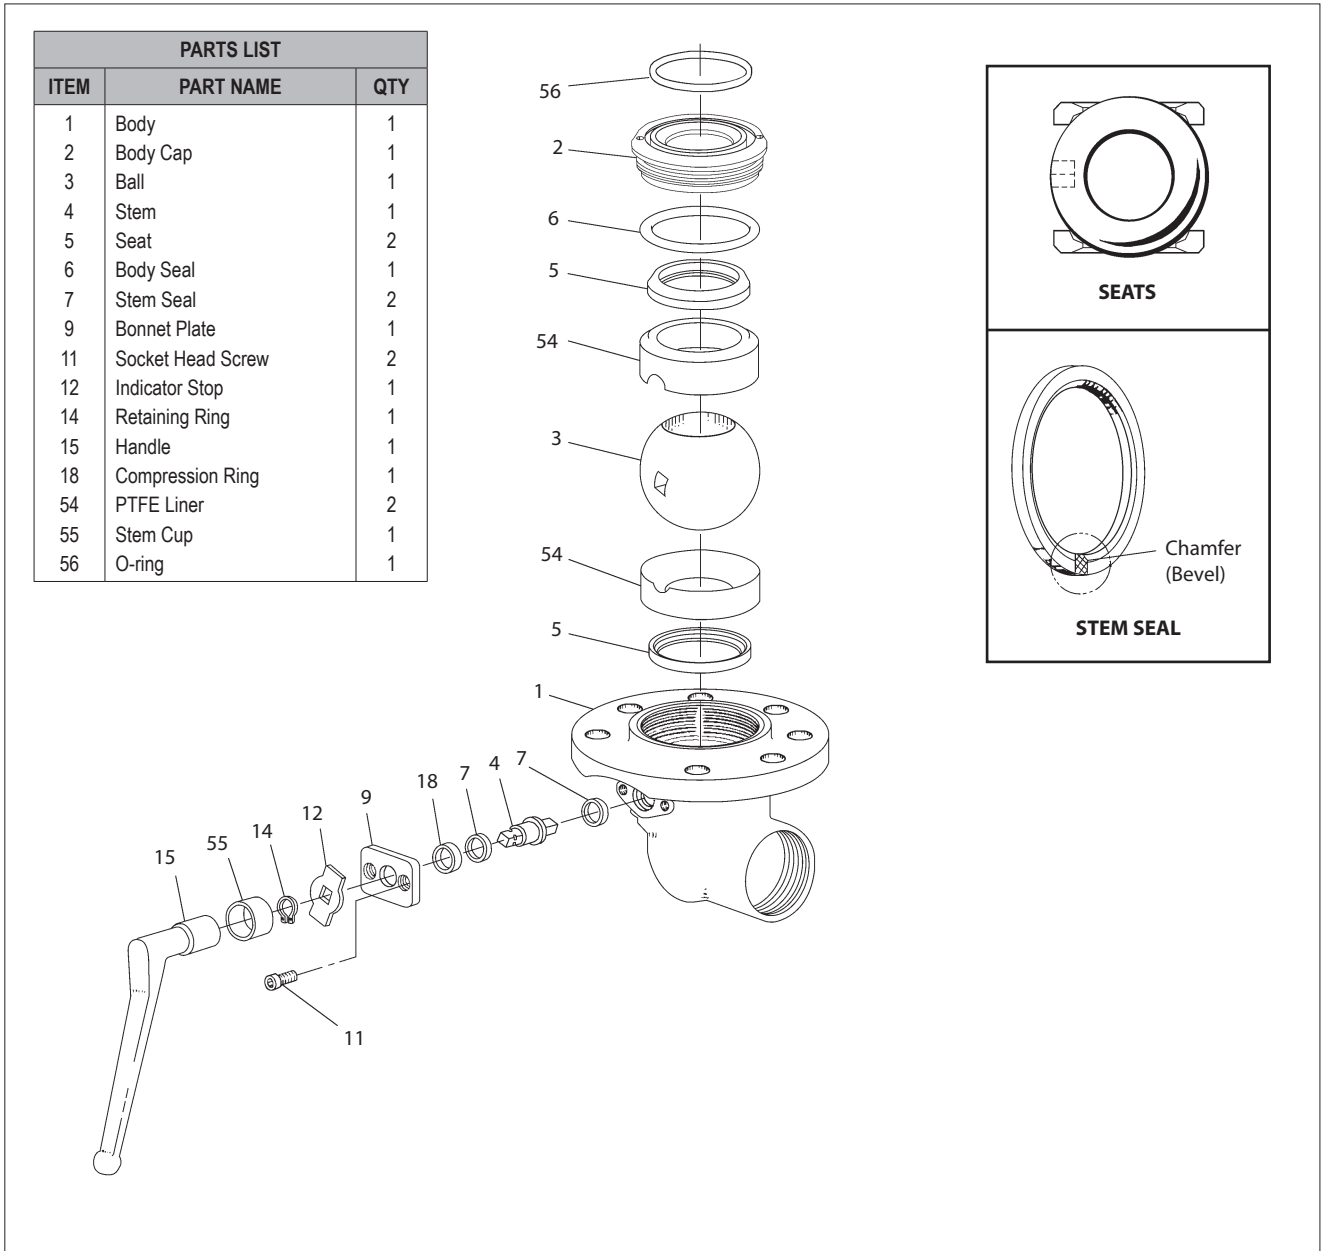

Figure 2.
1. Slide the first valve seat (5) into the body (1) to below the stem opening, and tilt it into place so that the proper surface (**see picture in Figure 2**) will be adjacent to the ball (3).
2. Fit one half of the PTFE liner (54) into the valve body aligning the slot in the liner with the stem hole in the valve body.
3. Insert one stem seal (7) into the stem hole with the chamfer on the I.D. facing down.
4. Place the ball (3) into the valve in the open position, and adjust so that the slot faces the stem opening. Lubricate the stem (4) with a compatible lubricant and insert it. The stem should be tapped into place gently to avoid cutting the PTFE of the stem seal.
6. Position the body seal (6) against the chamfer of the PTFE liner. The chamfer on the I.D. of the body seal should be facing out.
7. Fit the second seat (5) into the machined area of the body cap (2). (**see Figure 2 for proper placement of seat.**)
9. Slide the second stem seal (7), compression ring (18) and bonnet plate (9) over the stem. The chamfer on the I.D. of this stem seal should also be facing down.
10. Tighten the bonnet plate (9) down with the socket head cap screws (11). Tighten the screws until they make contact with bonnet plate; then tighten another 3/4 of a turn each.
11. Drop the indicator stop (12) and stem cup (55) over the stem and secure them with the retaining ring (14).
12. Place the handle (15) on the valve stem and rotate the ball slowly with a gentle back and forth motion to build gradually to the full quarter turn. By rotating slowly, the seat lips will flow into place to maintain a permanent seal against the ball. A quick turning motion at this point may cut the seats before they have a chance to flow into place.